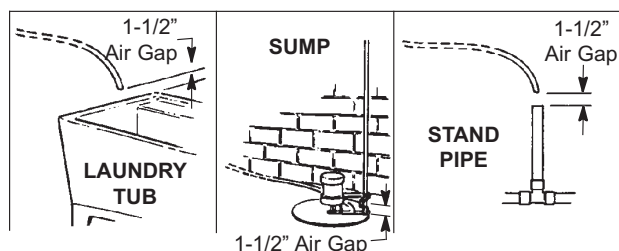

FIG. 7
- a. Take a length of 5/8” inside diameter garden hose and attach to the valve drain fitting (See Figure 7 on page 7).
- b. Locate the other end of the hose at a suitable drain point (floor drain, sump, laundry tub, etc.). Check and comply with local codes. Refer to Figure 7 on page 7 if codes require a rigid pipe drain run.
- b. Place bypass valve(s) into “bypass” position. On a single valve, slide the stem inward to BYPASS (See Fig. 7 on page 7). On a 3 valve system, close the inlet and outlet valves, and open the bypass valve (See Fig. 6 on page 7).